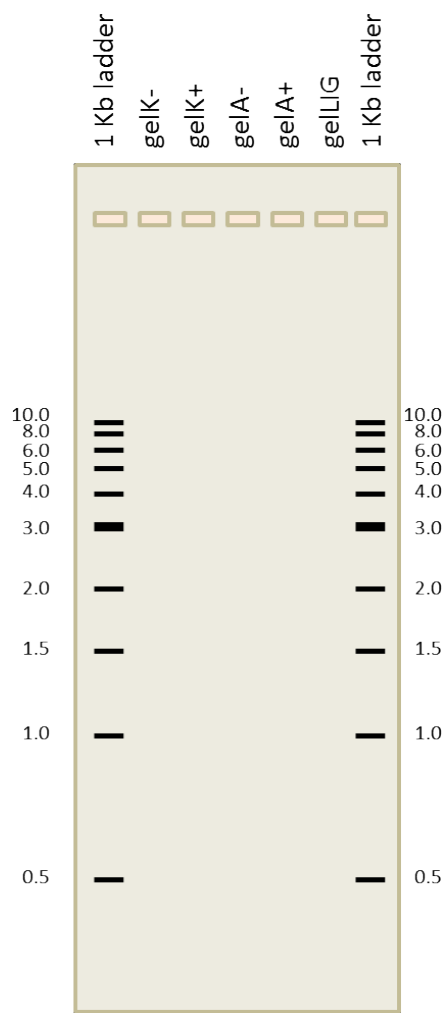

Figure 5.5 The DNA ladder diagram.
10. The DNA ladder serves as a standard because it contains a mixture of DNA molecules of known sizes. By running your samples and the DNA ladder side-by-side in your gel, you can estimate the actual size in base pairs of unknown DNA molecules. The DNA Ladder Diagram below shows 10 DNA bands of known sizes. Their sizes are given in kilobase (kb) pairs. 1 kb is 1,000 base pairs (bp). On the diagram predict the positions of DNA bands produced by the possible products found in the gelK⁻, gelK⁺, gelA⁻, gelA⁺ and gelLIG tubes by indicating their position on the DNA Ladder Diagram (figure 5.5).